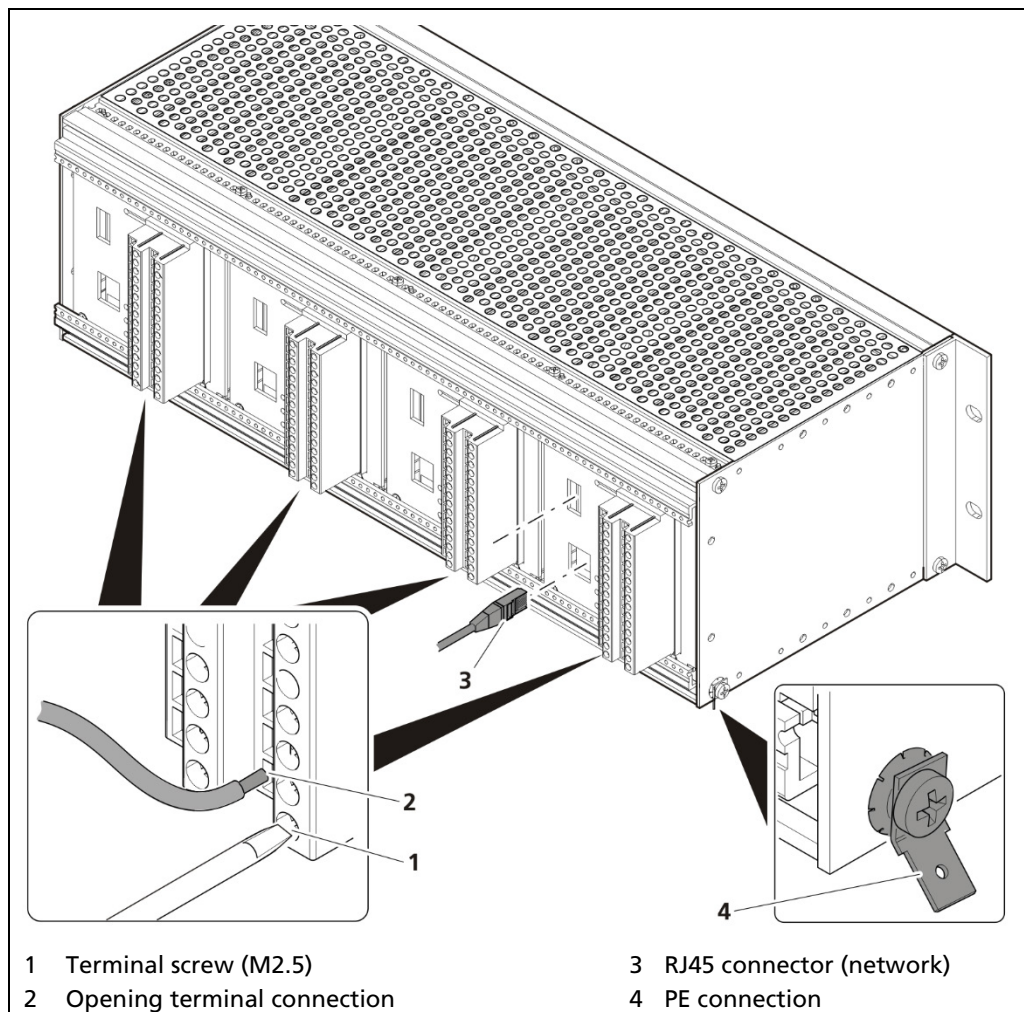

Fig. 12 Electrical connection in the 19" component rack (example: 4x master)
Prior to initial start-up, the voltage range (Fig. 12, item 8) must be marked with chemical resistance on all input and output terminals!
The terminal board master/master (Fig. 12) is used twice for the variant to install 4 master EVUs.
Apply the voltage of the specified and marked (Fig. 12, item 6) range only!
- Label the voltage range permanently and chemically (Fig. 12, item 6).
- Open the terminal connection (Fig. 12, item 1) with an operating tool (slotted screwdriver) and insert the stripped wire (min. 8 mm) (Fig. 12, item 2). The terminal connection closes by pulling out the operating tool. The terminal connections are designed for flexible wires:
- Plug the network plug into the RJ45 socket (Fig. 12, item 7) (optional).
- Check the correct connection of the PE conductor (Fig. 12, item 8).